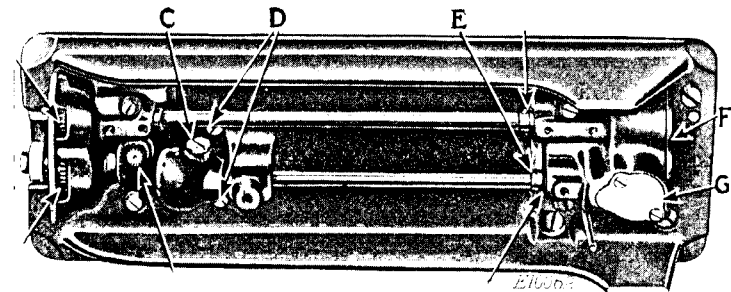

Fig. 19. Base View of Machine, Showing Oiling Points
Occasionally remove the cover (F, Fig. 19) and the screw (C, Fig. 19) of the gear cases on the underside of the bed of the
In case the sewing hook is not correctly timed, remove the screw (C, Fig. 19) and loosen the two set screws in the hook driving gear thus uncovered, then turn the balance wheel over toward you until the needle bar has descended to its lowest point and has risen until the lower timing mark across the needle bar is just visible at the end of the needle bar frame. Now turn the sewing hook until the point of the hook is at the centre of the needle, after which securely tighten the two set screws in the hook driving gear and replace the screw (C).
Remove the gear case cover (G, Fig. 19) and loosen the two screws in the hook shaft spiral driving gear thus uncovered, also loosen the screws in the collar (E, Fig. 19), then loosen the two screws (D, Fig. 19) and move the hook saddle toward or away from the needle, as required, after which securely tighten the two screws (D, Fig. 19), then move the collar (E, Fig. 19) over against the bushing and tighten its set screws. Tighten the two screws in the hook shaft spiral driving gear and at the same time hold the shaft to the right and the spiral gear to the left to eliminate any end play in the hook driving shaft.